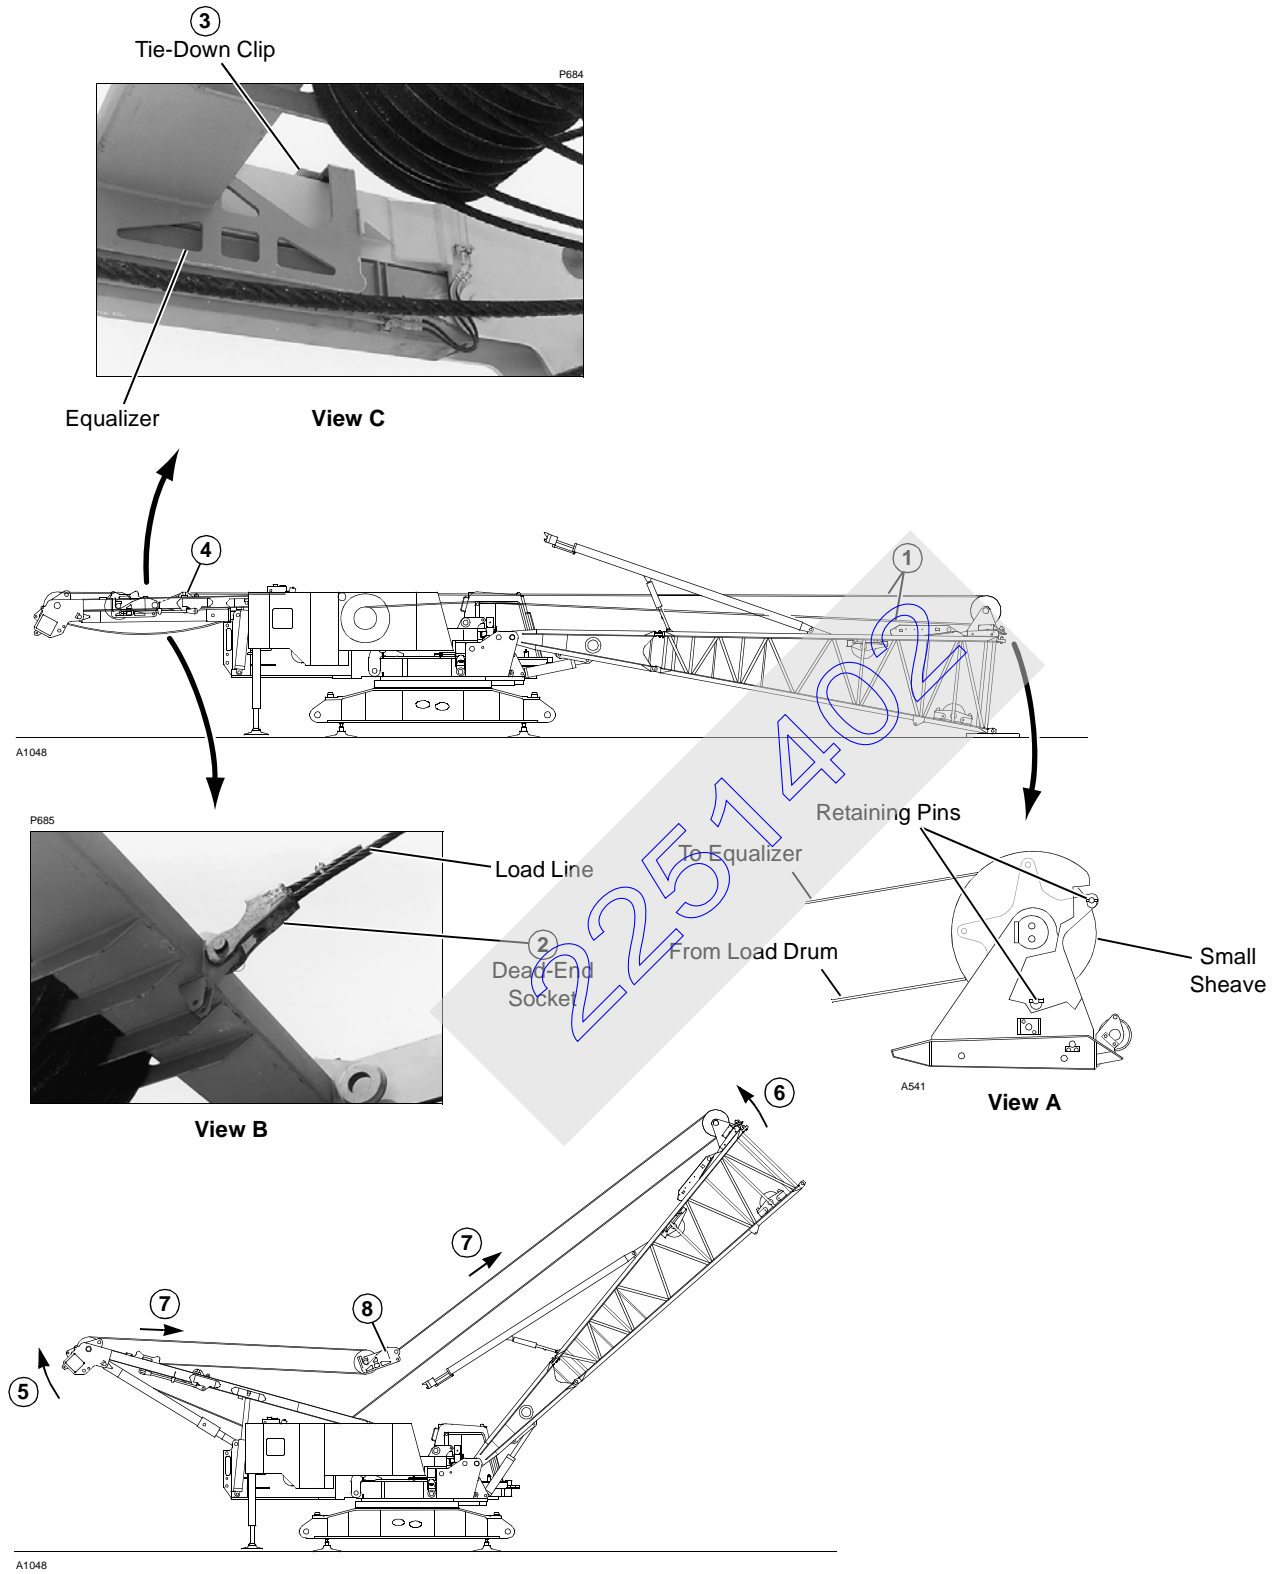

FIGURE 4-15
NOTE: Circled numbers in Figure 4-15 correspond to numbered procedure steps.
1. Reeve load line from top of rear or right rear drum under small sheave on boom butt; place retaining pins into sheave (Figure 4-15, View A).
2. Anchor load line to equalizer using dead-end socket and wedge (Figure 4-15, View B).
3. Slowly pay out boom hoist line and haul in load line to pull equalizer out of tie-down clips on gantry (Figure 4-15, View C).